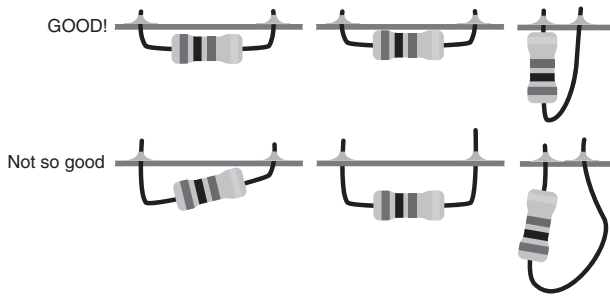

Figure 30-10 Good and not-so-good examples of soldering. When soldering components to a circuit board, be sure the parts are in fully and straight.
- Be sure to insert the component completely through the circuit board, and check that it isn't crooked (see Figure 30-10). Excessive component lead length can cause short circuits if they touch other exposed parts of the board.